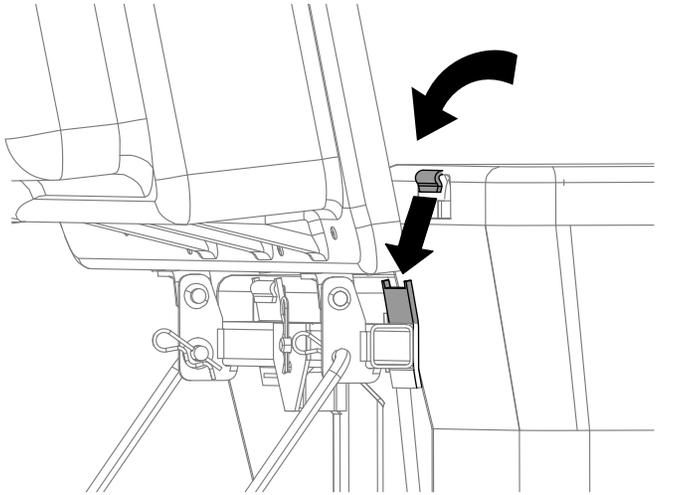

Figure 22
4. Lift the bagger top and install the bags assembled in 9 Assembling the Grass Bags (page 15) by sliding the bag frame hooks onto the retaining brackets (Figure 22).